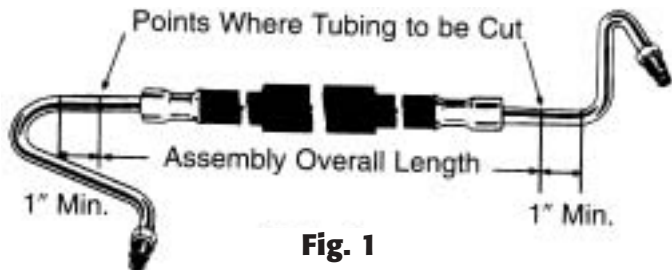

Fig. 1
3. Determine the length of the replacement assembly. Measure the distance between the points where the tubing is to be cut. See Fig. 1.